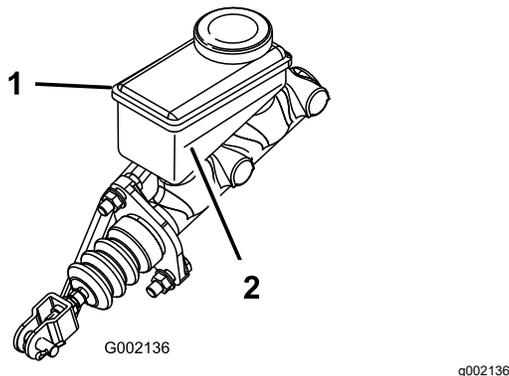

Figure 69
5. Look at the outline of the fluid level at the side of the reservoir (Figure 69).
- B. Add DOT 3 brake fluid to the reservoir until the fluid level is above the Minimum line (Figure 69).